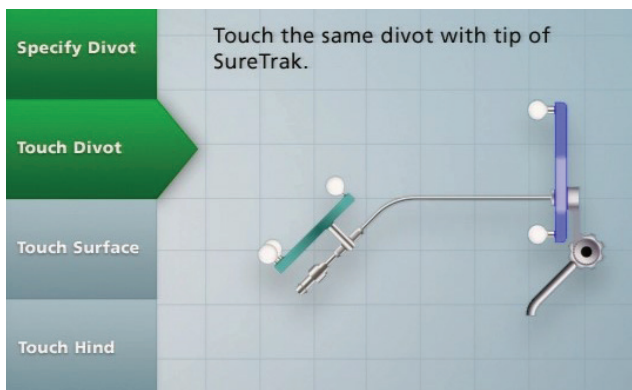

Figure 10
- **Step 2** - Touch the same divot with tip of the assembled Zimmer Biomet instrument with a SureTrak array (Figures 10).